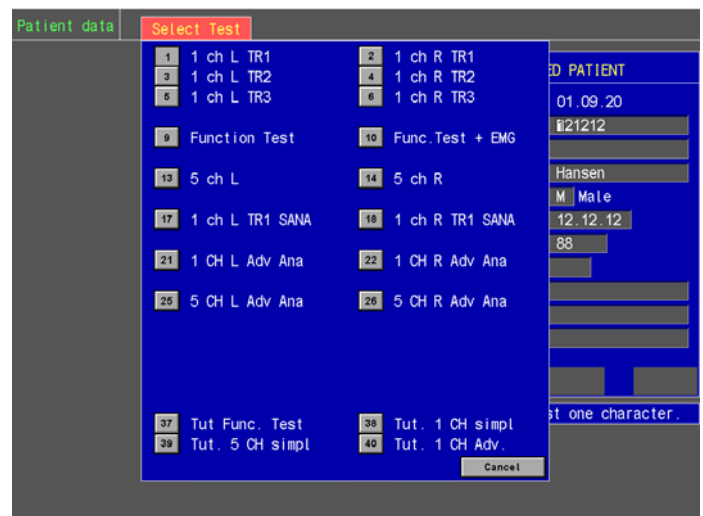

Figure 36 The Select Test Menu
- Click **OK** in the Selected Patient box, thus producing the Select Test Menu, see Figure 36 below: